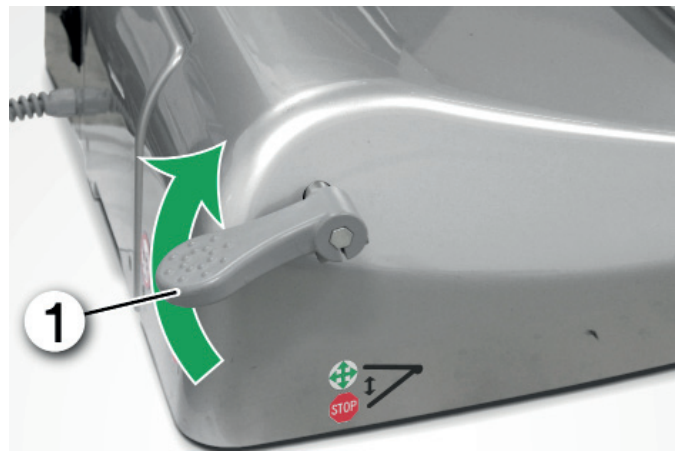

Fig. 22
- ▶ Push the caster brake up as shown in , or the locking pedal as shown in Fig. 22.